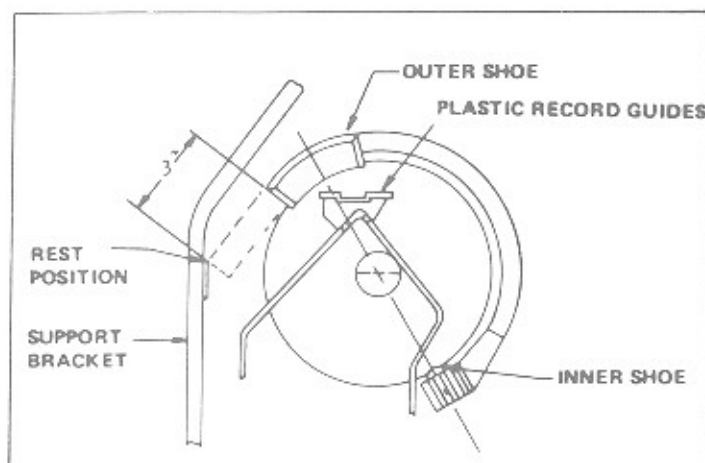

Figure 3-15. Magazine and Transfer Arm Position
2. Using a 5/32-inch Allen wrench in the end of transfer motor shaft, turn motor shaft clockwise until the gripper bow lifts the record out of the magazine, and the outer shoe is approximately 3 inches from its rest position on the back support (see figure 3-15).